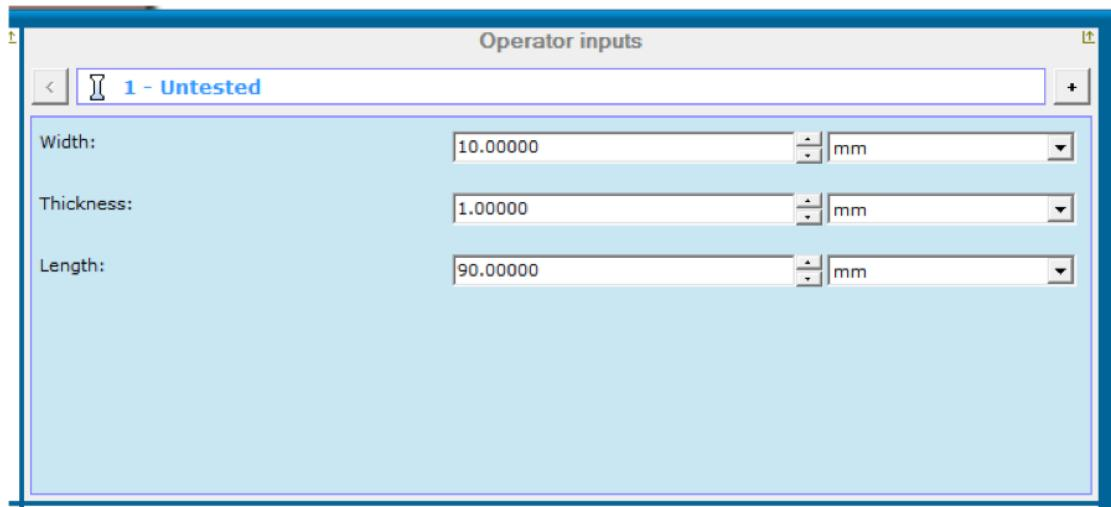

Fig. 3.5.4. Snapshot of the parameter settings box.
- vi. Under Operator inputs (top right box), enter the **width**, **thickness**, and **length** (*distance between the top and bottom grips*) of the sample, as shown in Fig. 3.5.4.